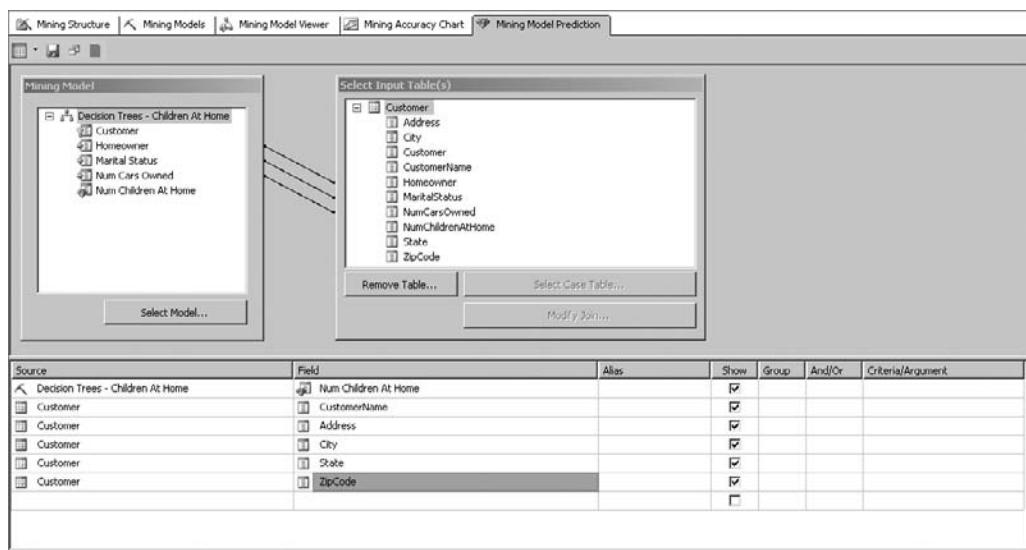

Figure 15-17 The completed prediction join query
11. Continue this process to include City, State, and ZipCode in the result set. The Mining Model Prediction tab appears as shown in Figure 15-17.